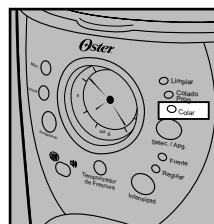

Figure 6
1. After completing the steps in the **Adding Water and Coffee** (p. 6) section. With the thermal carafe and the filter basket securely in place, turn the coffeemaker on by pressing the Select (SELEC./APG.) button once. The Brew Now (COLAR) green light will turn on to signal that the coffeemaker is on and brewing (Figure 6).